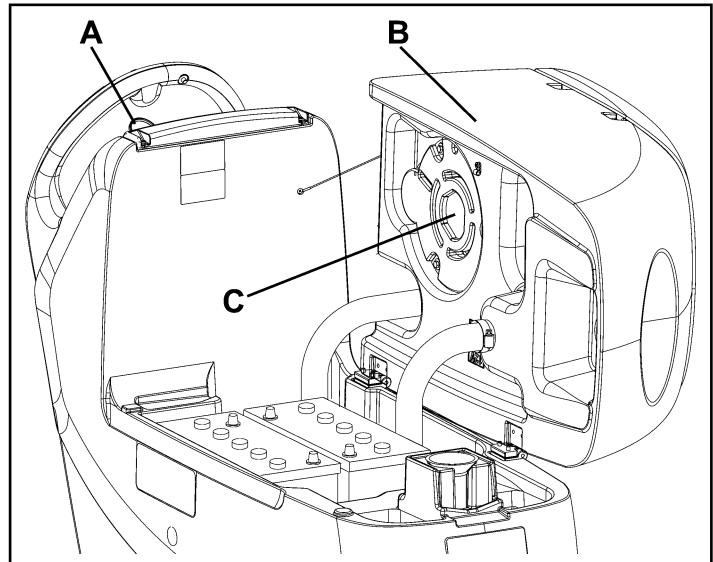

Figure 30
2. Turn the ignition key (A, Fig. 30) to "0".
3. Lift the recovery water tank (B).
5. Check that the pre-filter (C) is clean. If necessary clean it with water and compressed air, then install it.